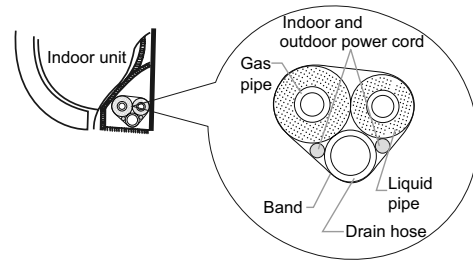

Fig. 14
- (1) Bind up the connection pipe, power cord, and drain hose with the band. (As shown in Fig. 14)